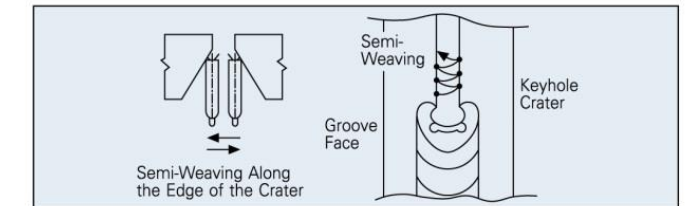

Fig. 6: The keyhole technique.
- Use the keyhole technique. Right after you get the arc by striking the groove face, control the molten pool to form the keyhole crater; then manipulate the electrode along the edge of the keyhole by using the semi-weaving technique – Fig. 6.
- When joining the weld beads, start the arc on the preceding bead, and expose the arc into the keyhole to assure better fusion; then follow the same procedure as in Fig. 6.